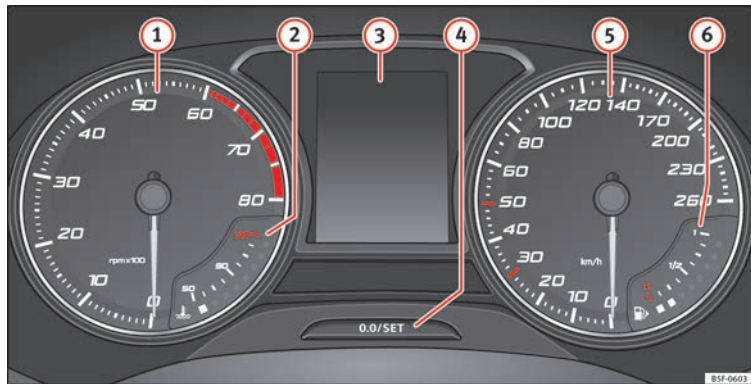

Fig. 121 Instrument panel, on dash panel
The rev counter indicates the number of engine revolutions per minute » **Fig. 121 ①**.
Never allow the rev counter needle ① » **Fig. 121** to go into the red zone on the scale for more than a very brief period, otherwise there is a risk of engine damage.
A variety of information can be viewed on the instrument panel display » **Fig. 121 ③** depending on the vehicle equipment:
- Briefly press the button » **Fig. 121 ④** to reset the trip recorder to 0.
- Keep the button ④ pressed for about 3 seconds and the previous value will be displayed.
- To set the time, keep the button  **Fig. 121**  pressed for more than 3 seconds to select the hour or minute display.
Hold the button  **Fig. 121**  down for more than 15 seconds to display the identifying letters of the vehicle engine (MKB). To do this, the ignition must be switched on and the engine switched off.
The coolant temperature gauge **2** » **Fig. 121** only works when the ignition is switched on. In order to avoid engine damage, please read the following notes for the different temperature ranges.